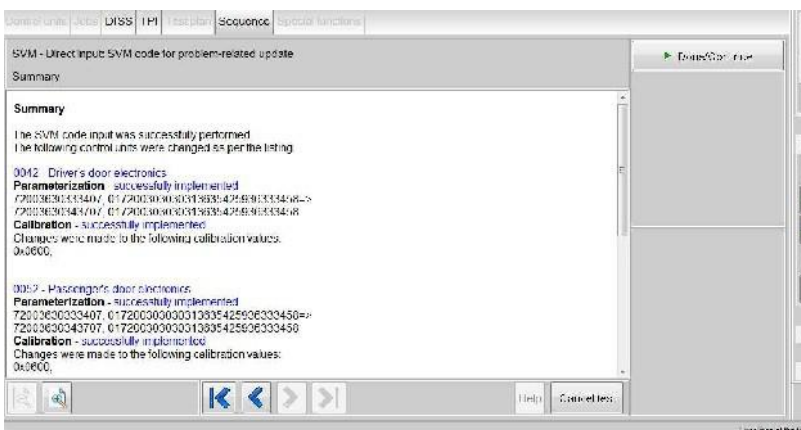

Figure 4
- 6) Once the update is complete the summary screen will be shown in Figure 4, this confirms completion of the required updates